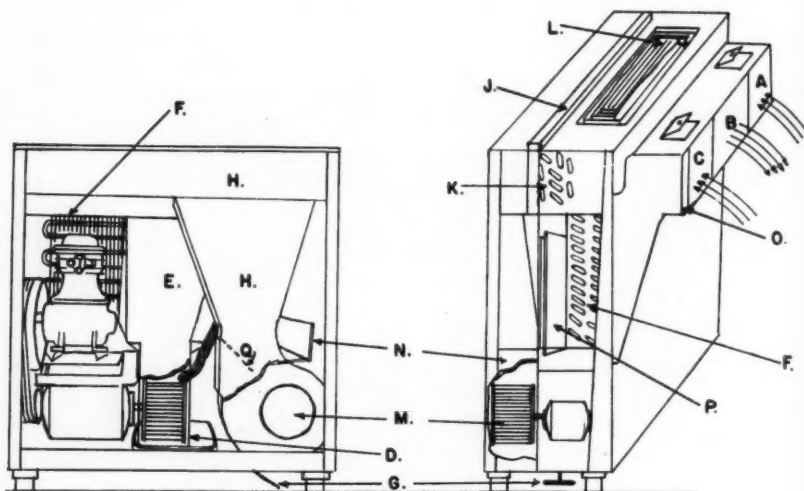

FIG. 4.—ILLUSTRATING THE S.A.C. MODEL 559
In Fig. 4, ventilation air (while cooling is on) enters the unit through duct (O) and passes downward through damper (N) to fan (M). Fan (M), as well as drawing air through duct (O), draws air from the room through floor damper (G), and then passes these two streams of air upward through duct (H), through the filter (J), and thence into the room through grill (L). When damper (N) is closed outside air cannot get to the fan and hence no fresh air can enter the room.